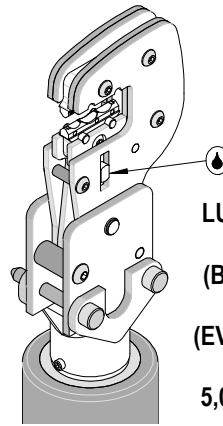

Figure 8A
3. Make certain all pins; pivot points and bearing surfaces in the tool head are protected with a thin coat of high quality machine oil. Do not oil excessively. The use of light oil, such as 30 weight automotive oil, every 5,000 crimps or monthly, will significantly enhance the tool life and ensure a stable calibration. See Figure 8A or 8B for lubrication points.